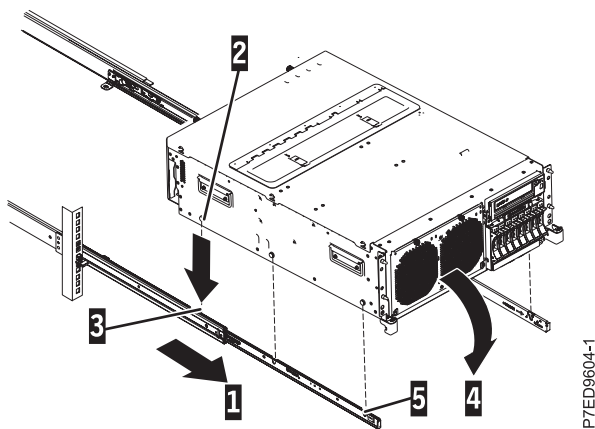

Figure 8. Slide rails extended, server nail heads aligned with slots in rail
7. Pull the slide rails forward (1) until they click twice into place. Carefully lift the server and tilt it into position over the slide rails so that the rear nail heads (2) on the server line up with the rear slots (3) on the slide rails. Slide the server down until the rear nail heads slip into the two rear slots, and then slowly lower the front of the server (4) until the other nail heads slip into the other slots on the slide rails. Make sure that the front latch (5) slides over the nail heads, as shown in Figure 8.